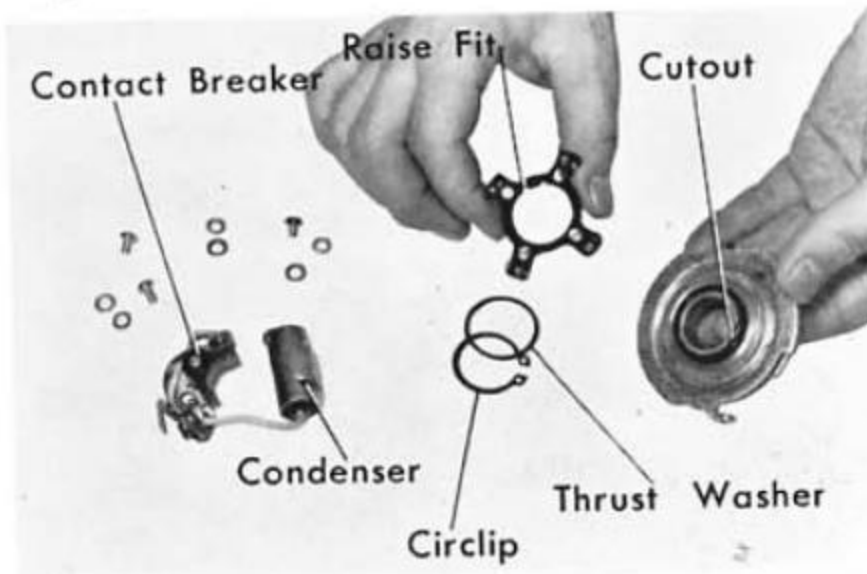

Fig. 19A-12
2. Remove the circlip and disassemble the thrust washer A, coupling plate, and thrust washer B from the distributor shaft (Fig. 19A-10).